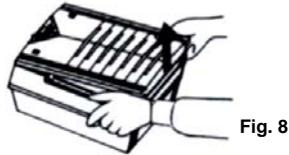

Fig. 8
2. Grasp both corners of the bottom of the air intake grill and pull upwards. (Fig. 8)
2. Grasp both corners of bottom of the air intake grill and pull upwards. (Fig. 8)